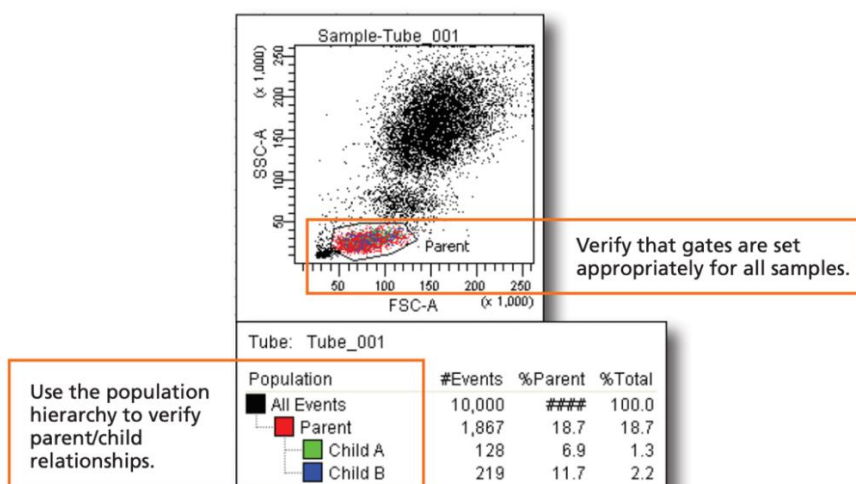

Figure 5 - Prepare plots, gates and population hierarchy in FACSDiva
9. Create a table for the Population Hierarchy by right-clicking on a plot and selecting **Show Population Hierarchy** (see Figure 5).